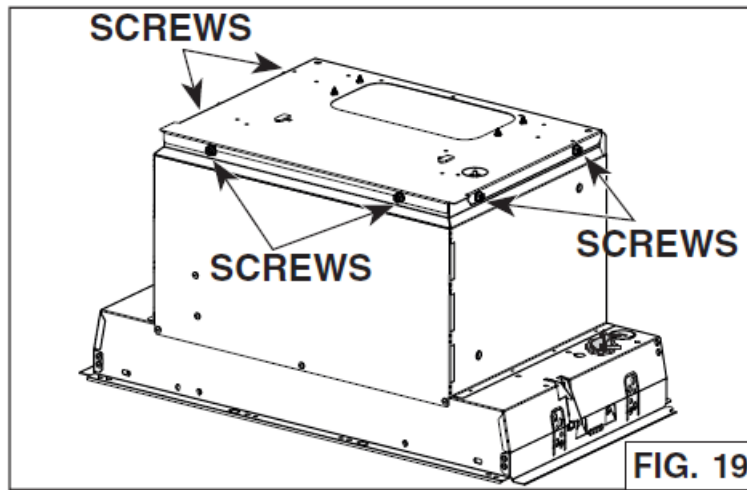

FIG. 19
7. Remove the 6 screws (2 per side and 2 in front) retaining the blower support plate to the top of the unit (FIG. 19).